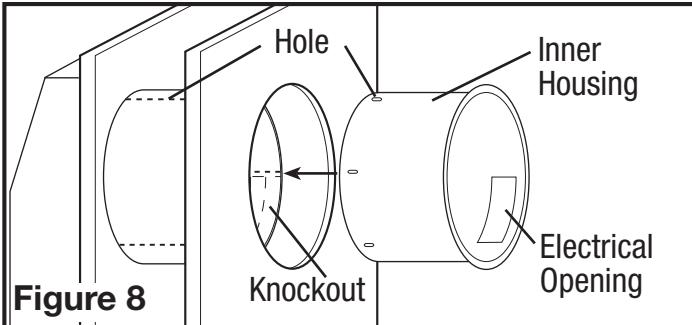

Figure 8
- From inside the house, insert the inner housing into the outer housing until it is tight against the wall. Line up three holes at the end of the inner housing with three of the holes on the outer housing and secure in place with the three included 3/8" screws (Figure 8).